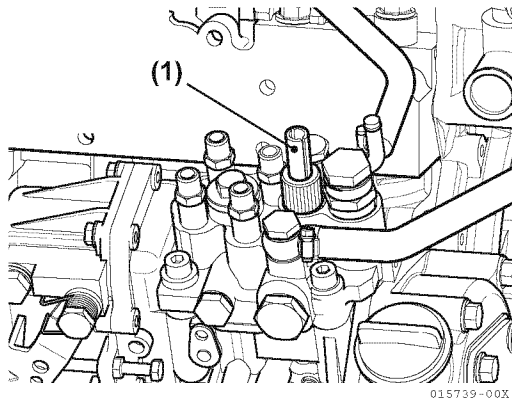
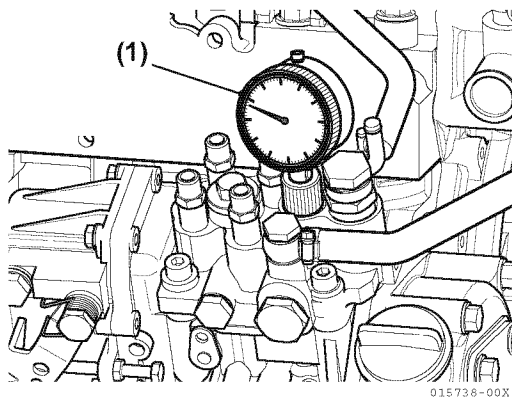

Figure 6-56
Figure 6-57
Note: Use the Yanmar part no. 158090-51831 M14 adapter for the MP2 fuel injection pumps and Yanmar part no. 23000-013000 plunger adapter clamp (**Figure 6-56, (1)**).
5. Install a dial gauge (Figure 6-57, (1)), Mitutoyo P/N 2050SB or equivalent, with a 30 mm extension, Yanmar P/N 158090-51870 or Mitutoyo P/N 303613, into the adapter. Secure with the Yanmar P/N 23000-013000 plunger adapter clamp (Figure 6-56, (1)) at approximately the mid-point of its travel.